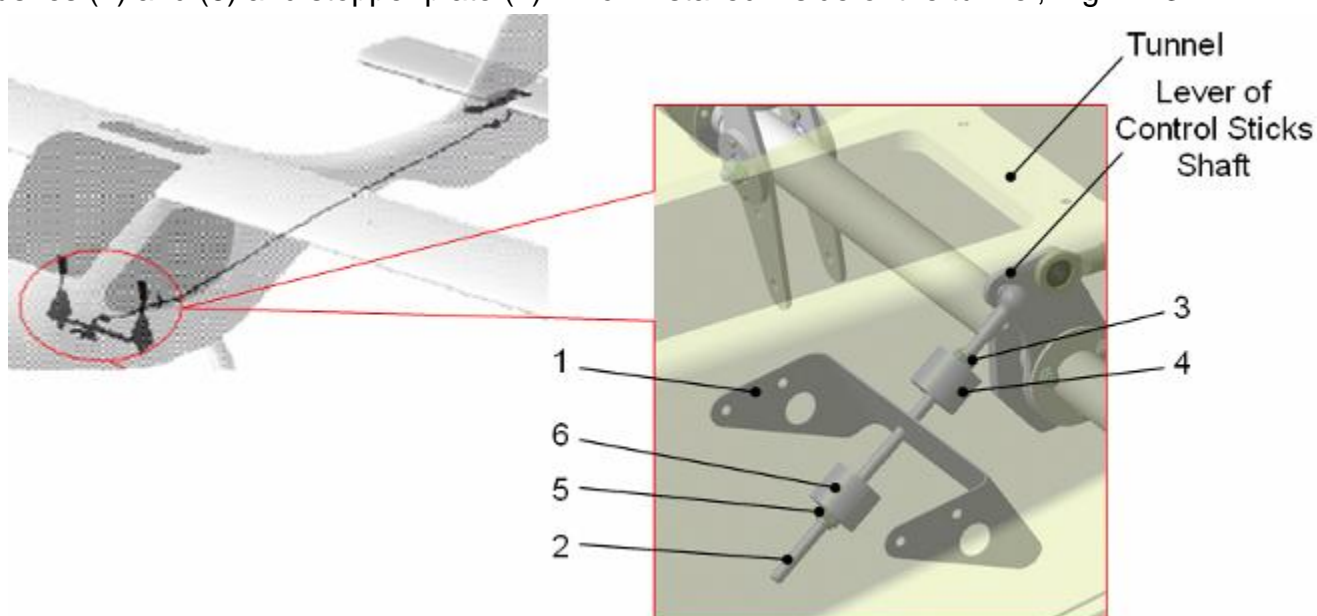

Fig. 4-23
For limitation of deflection of the Stabilator upward and downward use the rod (2) with stopper bushes (4) and (6) and stopper plate (1) which installed inside of the tunnel, Fig. 4-23.
Adjusting of downward Stabilator deflection, Fig. 4-23:
Adjusting of upward Stabilator deflection, Fig. 4-23: